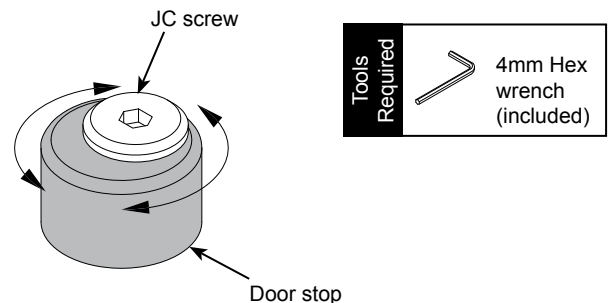

Figure 4
1. The door stop can be rotated slightly to adjust the closed position of the doors. To rotate, loosen the JC screw (or upper door stop locknut on 42"H lecterns) slightly with a 4mm hex wrench. **Figure 4.**